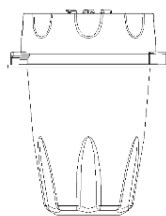

Fig 3
- Disconnect from power supply once finished. Disassemble the grinder attachment from the base, keep the grinding bowl downward and turn it anticlockwise (see fig.3), then empty the bowl and serve.